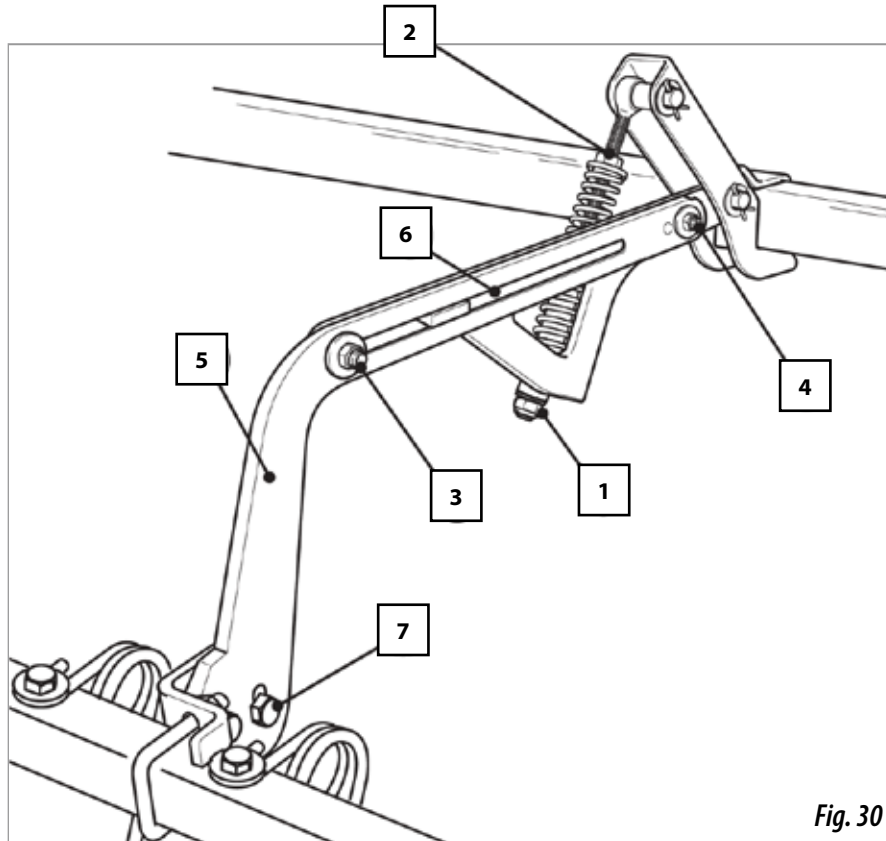

Fig. 30
- 1- Height adjustment, by operating the lower nut (fig 30/1).
- 2- Pressure adjustment, by using the spindle's upper nut (fig 30/2).
- 3- Tines's inclination, by operating the slide (fig 30/7) which holds the tines' chassis.
- Loosen the nut (fig. 30/3).
- Take out both the screw and the nut (fig. 30/4).
- Pull back the bar (fig. 30/5) and place both the screw and the nut in the hole that is in the middle of the bar (fig. 30/6).